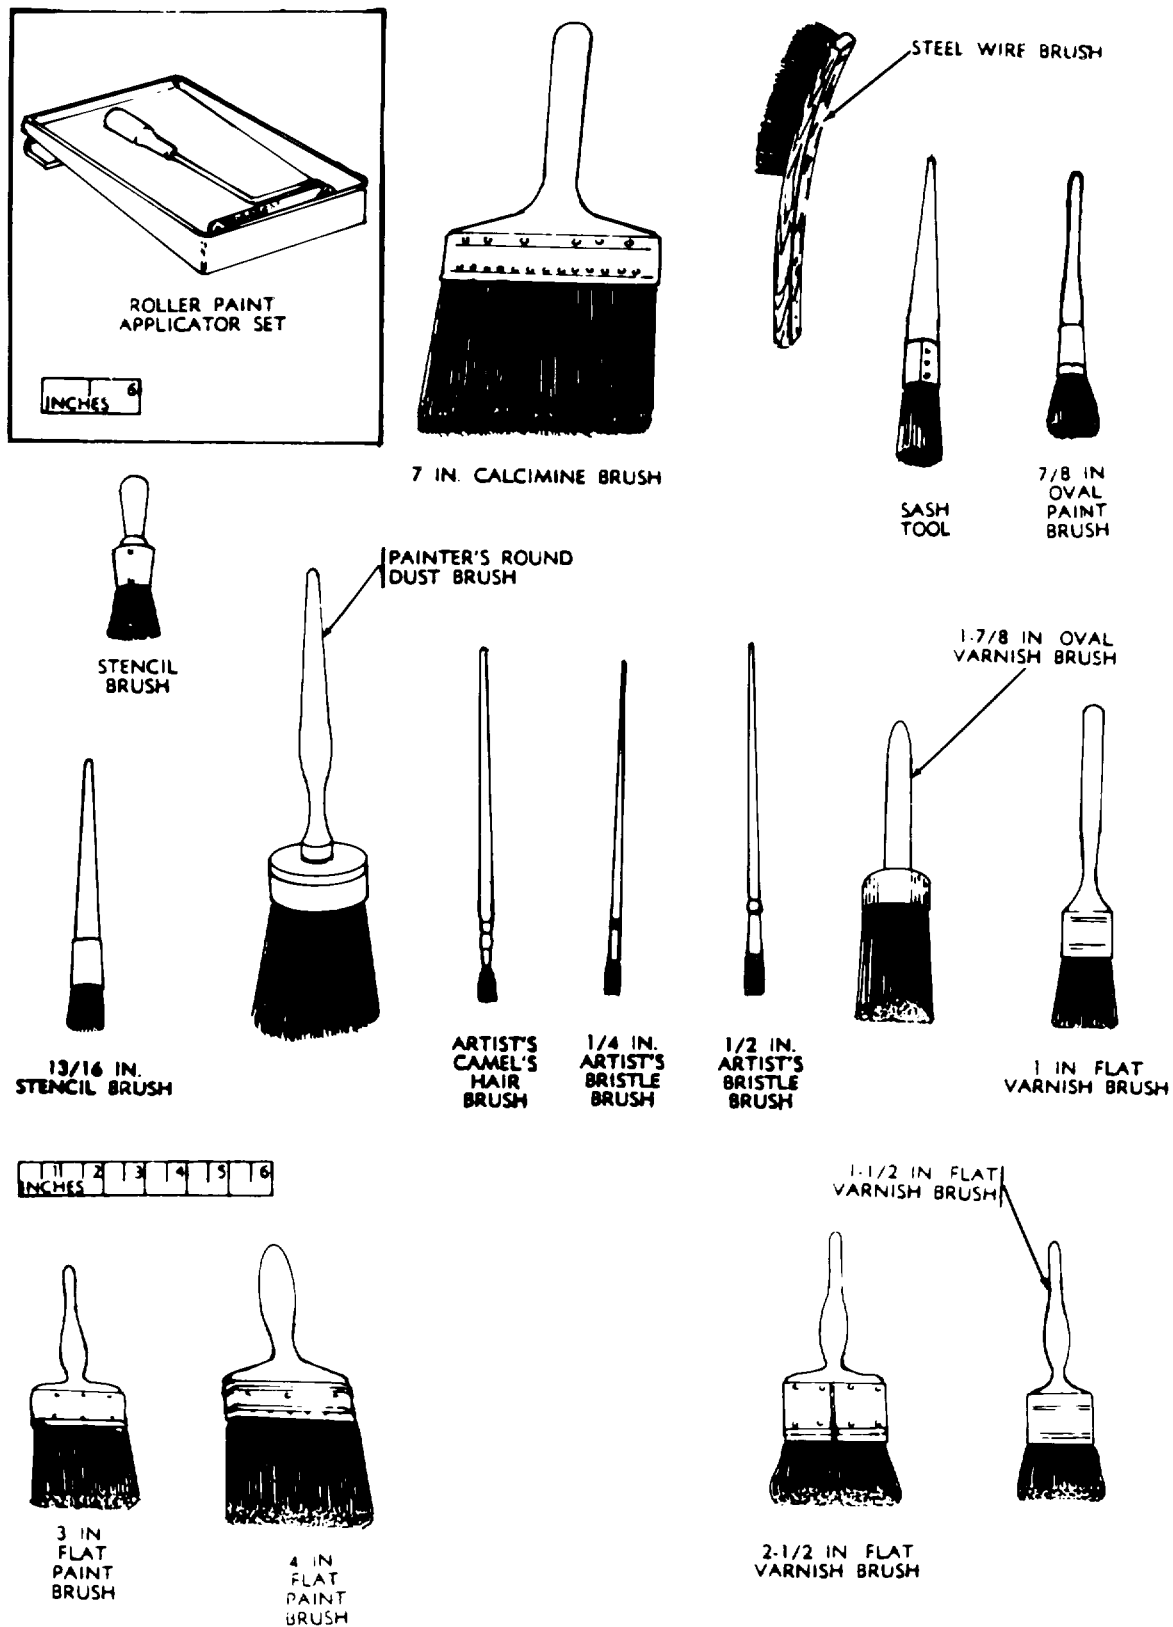

Figure 5-15. Types of Brushes and Rollers
a. *General.* Factors determining the proper selection of a brush (see figure 5-15) for a specific task are:
- (1) The material to be applied.